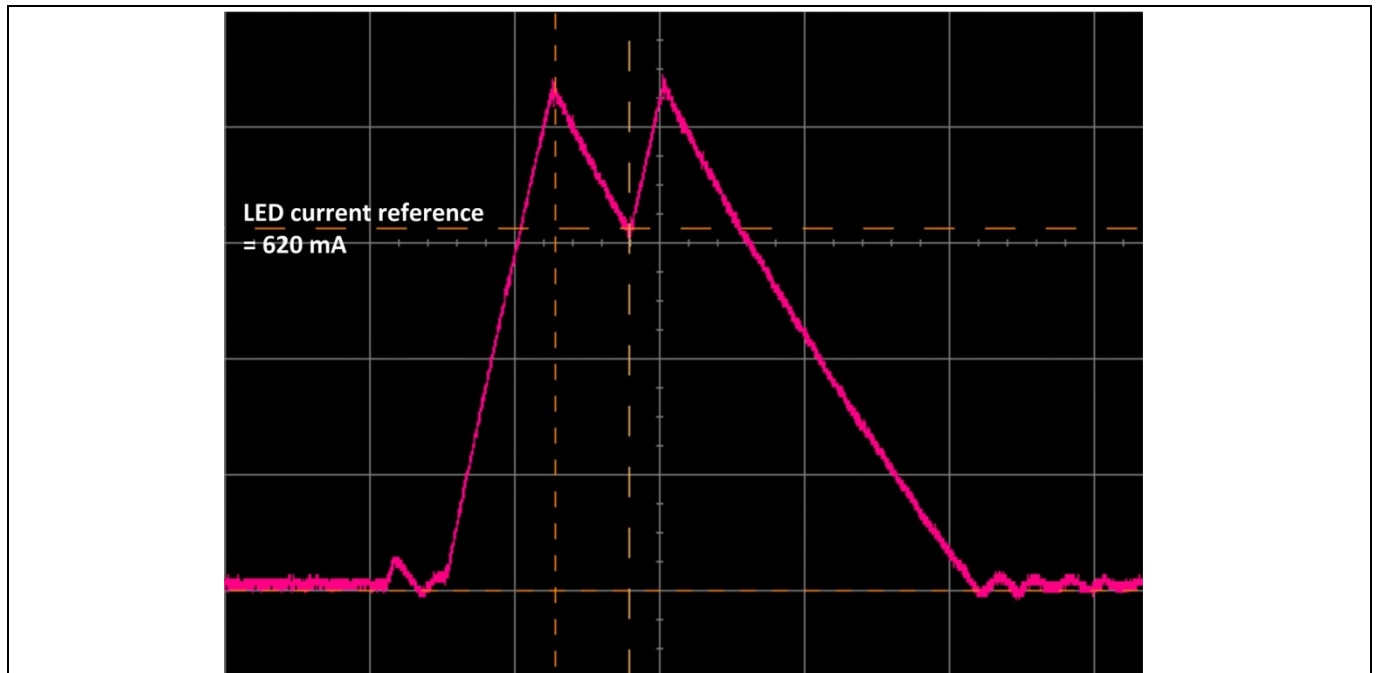

Figure 51 Optimized LED current ripple waveform
6. With the new values, run the project again to confirm that the new values are satisfactory. Figure 51 shows the LED current ripple after successful tuning. Additional iterations of tuning may be required to achieve an optimized state.